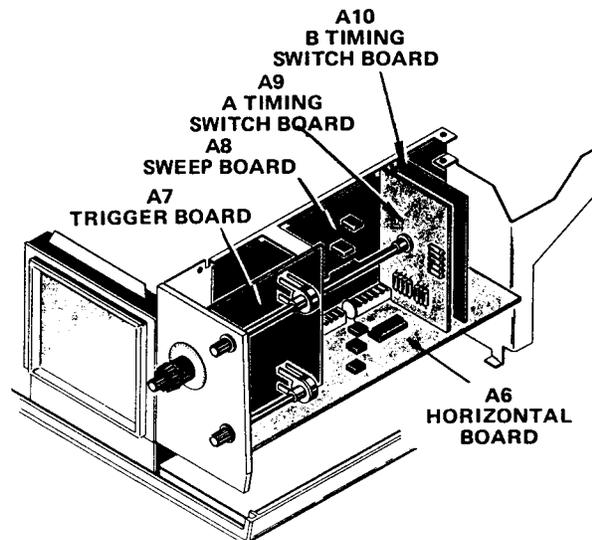

Figure 5-10. Horizontal module board locator.
(11) Remove the two screws and two nuts holding the power supply chassis divider. Loosen the small screw in the front lower right corner of this chassis (there is a heat sink on the other side). Carefully remove the chassis.
(12) Remove the rear panel and disconnect the wires and cables to the Interface Board.
(13) Remove the remaining screws holding the Interface Board to the cabinet bottom.
(14) Reinstall the board in reverse order. Be sure to properly install the heat sink when replacing the divider chassis in step (11).
j. A and B Timing Switch Board Assembly Removal and Replacement (Figure 5-10).
(1) Remove the horizontal module.
(2) Remove the VAR (1 hex screw) and the TIME/DIV knobs by loosening their set screws with a 1/16 inch hex wrench.
(3) Remove the two screws and hex nuts holding the switch board assembly.
(4) Remove the TIME/DIV knob skirt by loosening its set screw with a 5/64 inch hex wrench.
k. A AND B Timing Switch Disassembly (Figures 5-10 and 5-11).
(1) Remove the VAR shaft by loosening its set screw at the VAR potentiometer coupling with a 0.050 inch hex wrench.
(2) Remove the four screws holding the switch and boards together. Separate the boards, being careful that the switch doesn't fall out. Also, do not lose the two plastic nut retainers.
I. Trigger Board Removal and Replacement (Figure 5-10).
- (1) Remove the horizontal module.
- (2) Unplug the three multiconductor connectors.
- (3) Unsolder the B Trigger external input and its ground at the rear of the BNC connector.
- (4) Remove one screw at top rear of board.
- (5) Carefully pull the bottom of the board toward the right until it just unplugs. Then pull the board out away from the module.
n. Horizontal Board Removal and Replacement (Figure 5-10).
(2) Remove the Trigger Board.
(3) Remove both screws holding the A and B Timing Switch Board Assembly. Unplug the assembly and move it far enough toward the top of the module to uncover the Horizontal Board plugs to the Sweep Board.
(4) Remove the horizontal POSITION and A TRIGGER HOLDOFF shaft knobs (see h. above).
(5) Remove the two screws holding the board (left rear corner and right front corner).
(6) Unsolder the A Trigger external input at the BNC connector and remove the board.
(7) Replace the board in reverse order.
o. Sweep Board Removal and Replacement (Figure 5-10).
(2) Remove the A and B Timing Switch Board Assembly.
(3) Remove the Trigger Board.
(4) Remove the Horizontal Board.
(5) Unplug the three multiconductor connectors going to front panel controls.